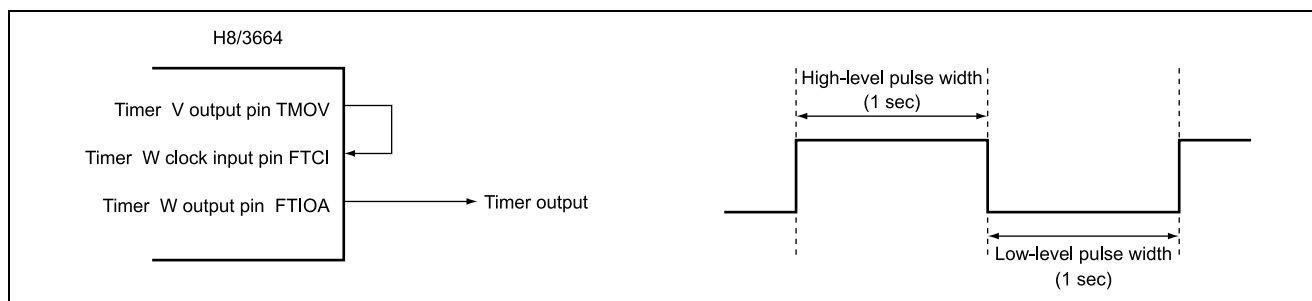

Figure 1.1 24-Bit Timer Using the Functions of Timers V and W
1. This sample task generates pulses by alternately setting an output high for one second and then low for one second (figure 1.1).